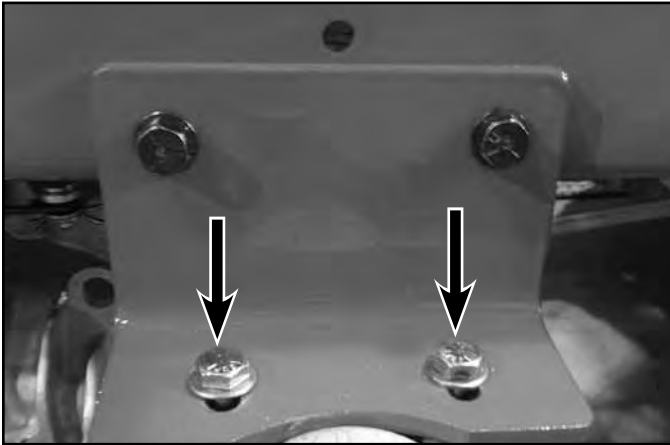

Fig. 067
13. **Narrow Frame Only**– Remove the (2) outer hydro mounting fasteners (Fig. 067).